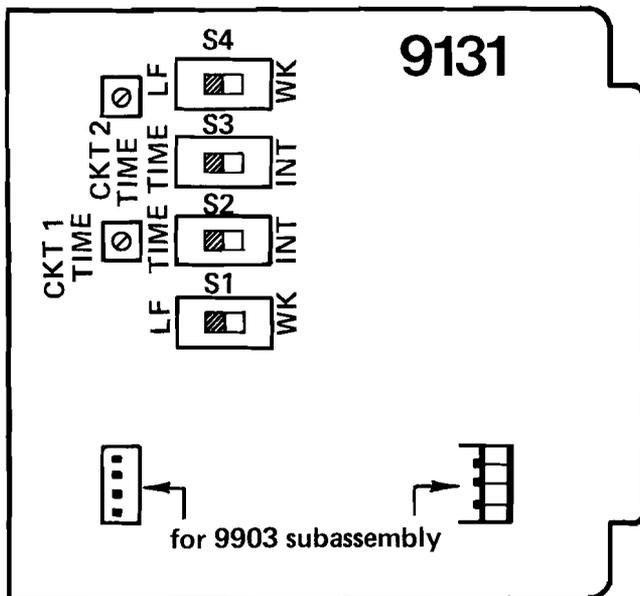

figure 2. Switch locations
3.06 The 9131 contains four option switches and two user-adjustable potentiometers. The locations of these controls on the module's printed circuit board are shown in figure 2, and switch functions are summarized in table 2. After these controls are set, no further optioning or alignment of the module is required.
Note: Because the two timing/interrupter circuits of the 9131 are identical, this checklist will apply equally to either circuit. The only difference will be option switch assignments and pin assignments. See table 1 for pin assignments. See figure 2, table 2, and accompanying text (paragraphs 3.06 through 3.09) for option switch assignments.